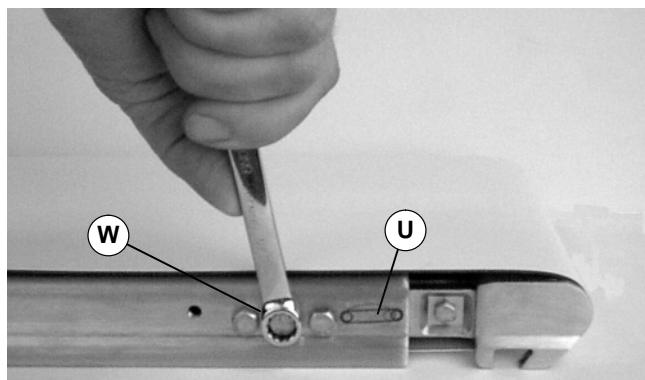

Figure 19
4. With pinion gear engaged, place a 10 mm wrench on lock screw (W of Figure 19).
2. With pinion gear engaged, place a 10 mm wrench on lock screw (W of Figure 19).
5. Secure lock screw (W of Figure 19) to 4.5 Nm.